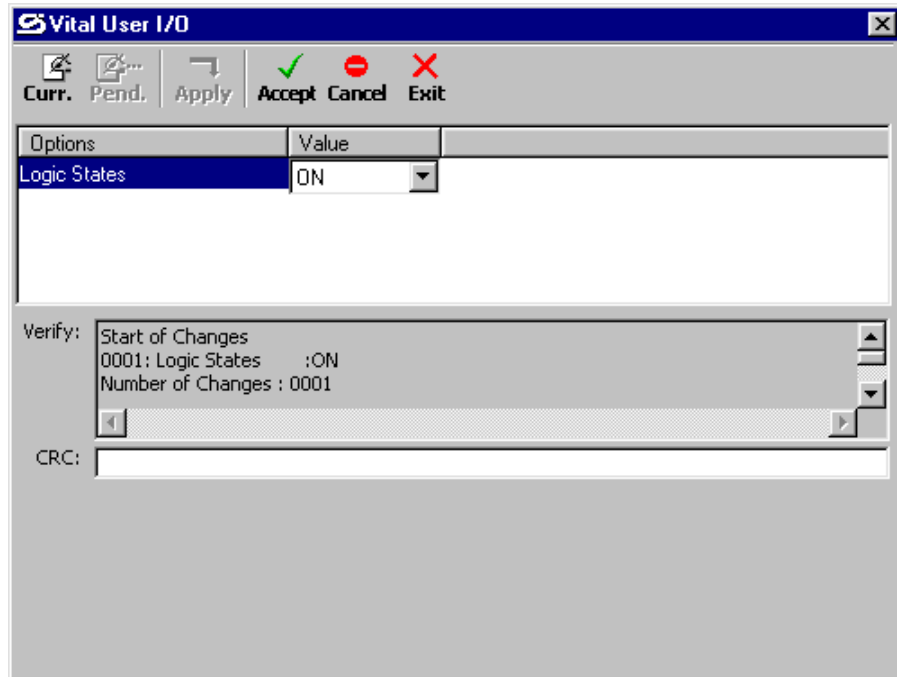

Figure 3-48
- After all value changes are completed using the process just described, click on **Apply** at the top of the Vital User I/O screen. The GDT sends the changes to the GEO™ unit which processes the changes and then returns data that is displayed in the GDT “Verify” list box (see figure 3-48).